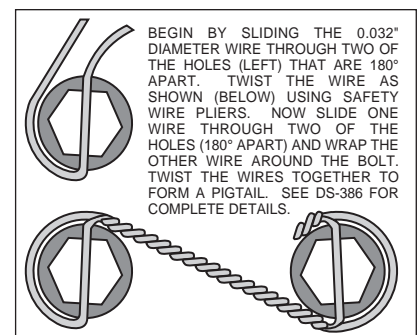

Figure 3. Safety Wire Diagram
- The caliper mount bracket assembly (1) should be installed first with clean, dry threads on the mounting bolts. Install the bracket from the rear side of the spindle by sliding the upper mounting bolt (4) through flat washer (5), and the upright into the upper bolt hole on the bracket. Attach the lower portion of the bracket by sliding bolt (6) through flat washer (7) and into the lower hole on the backside of the spindle. The bracket must tighten squarely against the inboard side of the spindle face plate/upright. Inspect for interference from casting irregularities, machining ridges, burrs, etc. If everything fits correctly, then remove the mounting bolts (4 and 6), coat threads with red *Loctite*® 271 and reinstall. Torque bolt (4) to 65 ft-lbs., and bolt (6) to 42 ft-lbs.
- Install wheel studs (8) into the hub (9). Torque to 77 ft-lb. **NOTE:** *There are two lug patterns of five holes each in the hub (5 x 4.50 and 5 x 4.75).* Make sure of the correct hole pattern for the wheel application before installing the studs into the hub.
- Pack the large inner bearing cone (10) with high temperature disc brake bearing grease (available from your local auto parts store) and install into the backside of the hub (9).
- Install the grease seal (11) into the backside of the hub (9).
- Pack the small outer bearing cone (17) with high temperature disc brake bearing grease and install into front side of the hub (9). Slide the hub assembly (9, 10, 11 and 17) onto the spindle. Secure using spindle washer (18), stock adjusting nut, and nut locking device. Adjust wheel bearing pre-load per Original Equipment Manufacturer (OEM) specifications.
- Install the O-ring (20) and the dust cap (19) into the hub (9). **NOTE:** *O-ring (20) friction will not allow cap (19) to unscrew on its own.*
- With the larger I.D. side of the rotor (12) facing away from the hat (13), bolt rotor (12) to hat (13) through the backside of the rotor using washers (14) and bolts (15). Torque bolts (15) in an alternating sequence to 85 **in-lb**. Safety wire bolts (15) using standard 0.032 inch diameter stainless steel safety wire as shown in Figure 3.
- Slide the rotor/hat assembly over the studs (8) in the hub (9) taking care to align the small countersunk holes in the hat (13) with the small threaded holes in the hub (9). Install three flat head socket head screws (16) through the small holes in the hat (13) and torque to 85 **in-lb**. Check to be sure the hat seats squarely against the spindle.
- Install one washer (25) over each pre-installed stud (24) on the radial mount bracket (1). Slide the caliper (2) in place over the studs and rotors, then install the washer (23) and lock nut (22) to hold the caliper in place. The caliper bleed screws should be pointing up.